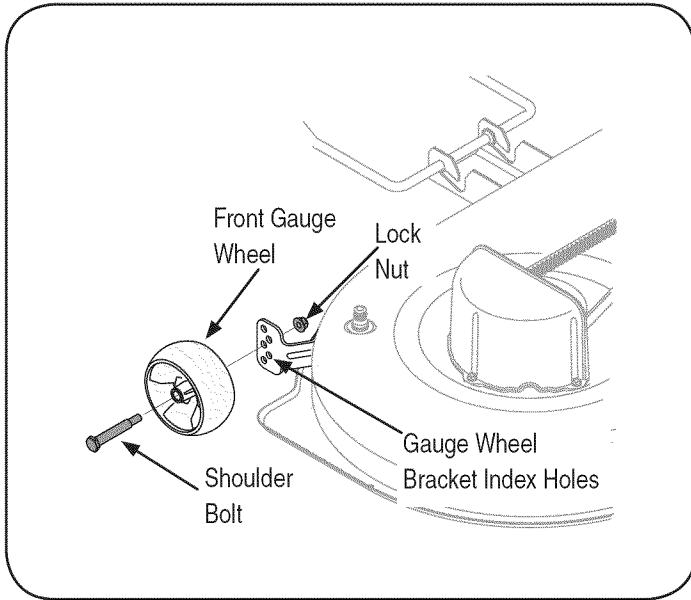

Figure 17
3. Remove the hex flange lock nut and shoulder bolt securing one of the front gauge wheels to the front index bracket. Reposition the gauge wheel to align with the one of five index holes that places the wheel 1/4" to 1/2" above the ground. Secure the gauge wheel to the index bracket with the shoulder bolt and flange lock nut. Note the index hole used and secure the other gauge wheel in the same position. See Figure 17.